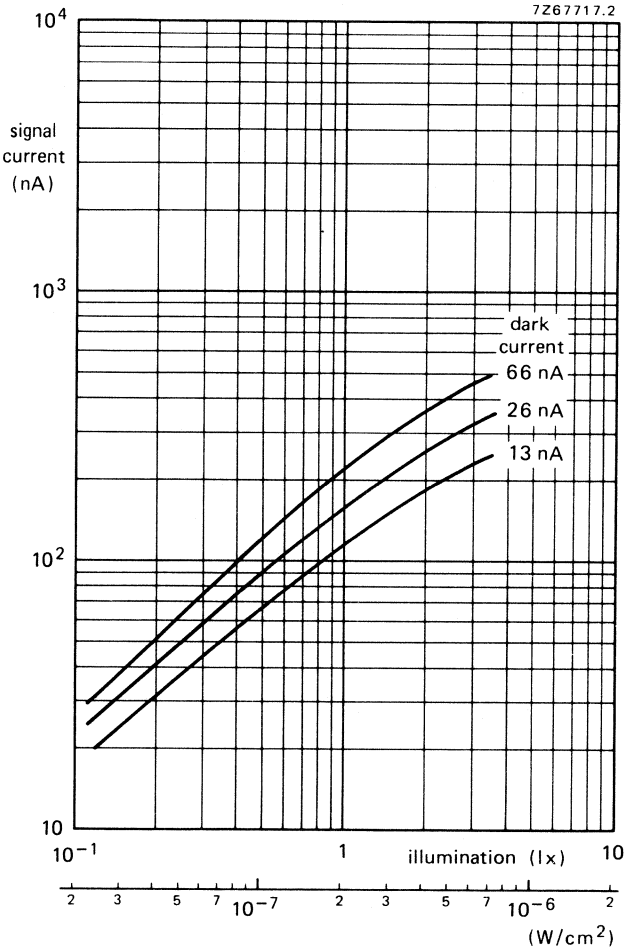

Fig. 5 Typical light transfer characteristic.
12. For typical transfer characteristics with P20 and P11 light input see Fig. 5 and 6.